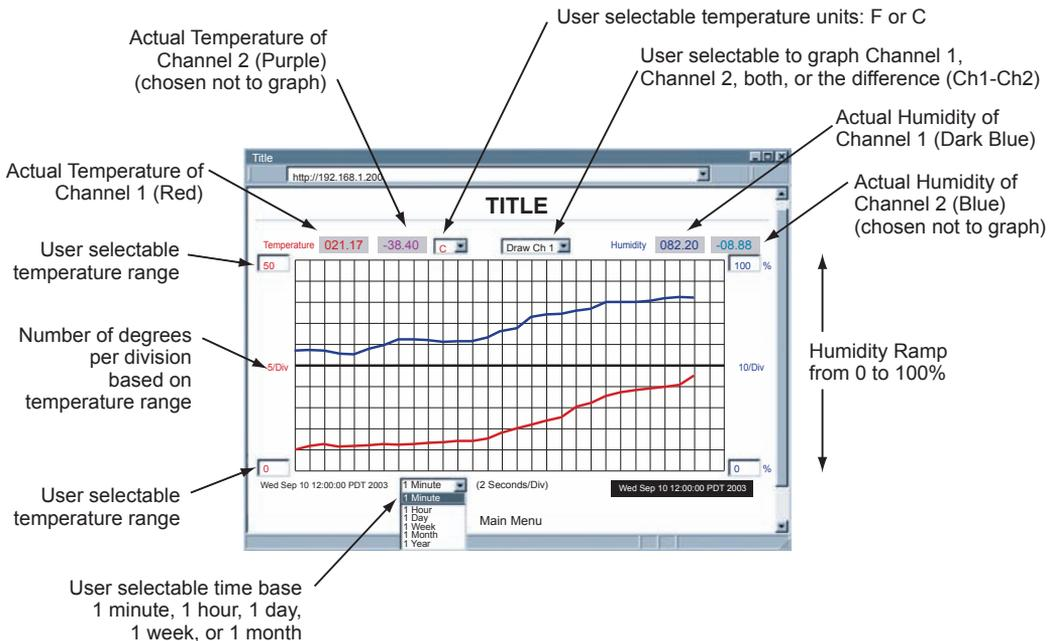

Figure 4.8 Chart
- Click on Chart, the following page (**Figure 4.8**) should appear. The Java™ Applet graph displays Temperature and Humidity values, which can be charted across the full span (-40 to 124°C, and 0 to 100% RH) or within any narrow range (such as 20 to 30°C). The time-base can display one minute, one hour, one day, one week, one month or one year. Users can select channel 1, channel 2 or the difference of the two channels.